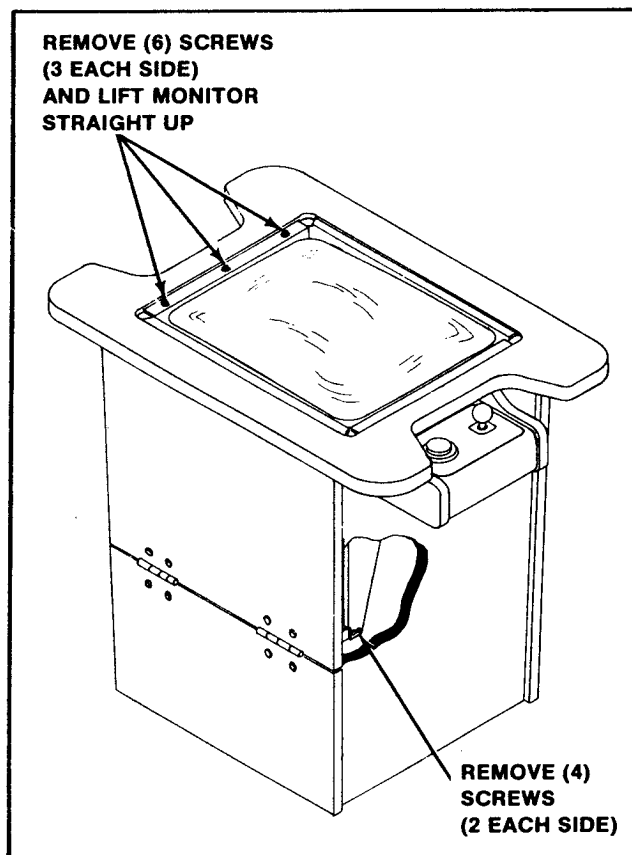

Figure 4-12 Removing Monitor — Cocktail
- ☐ Remove the screws holding the T.V. monitor chassis to the "L" brackets by the door hinge(s). See Figure 4-12.
- ☐ Remove the screws which secure the T.V. monitor mounting brackets to the edges of the slot cut in the table top. See Figure 4-12.